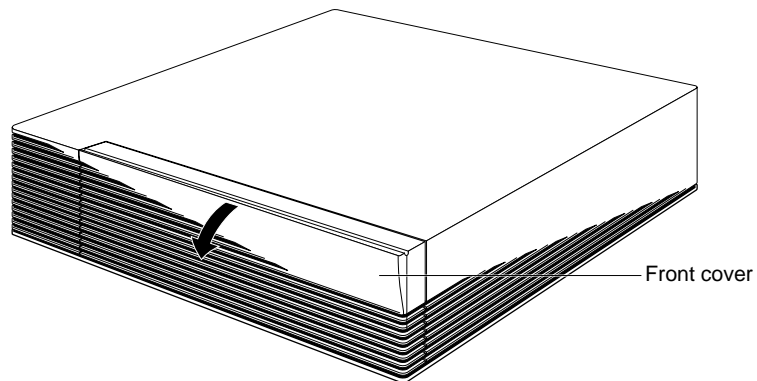

Figure 1-1 Opening the Front Cover of the Indigo² Chassis
1. Open the front cover of the chassis, as shown in Figure 1-1.
- Snap the cover away from the top edge of the chassis and tip it down, as shown in Figure 1-1.